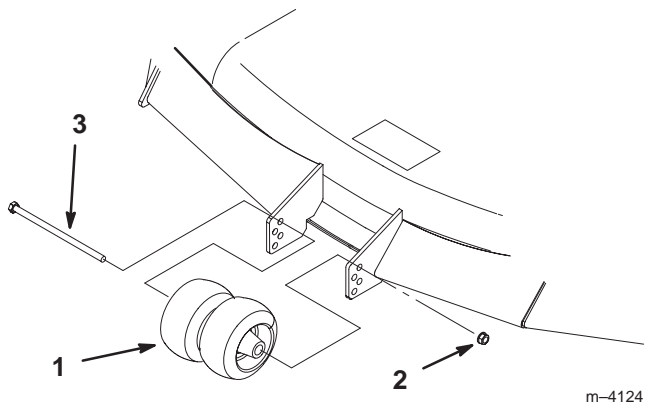

Figure 10
1. After adjusting height-of-cut, remove bolt and nut (Fig. 10).
2. Select hole so gage wheel is positioned to the nearest corresponding height-of-cut desired (Fig. 10).
3. Reinstall the bolt, center rollers and nut (Fig. 10).